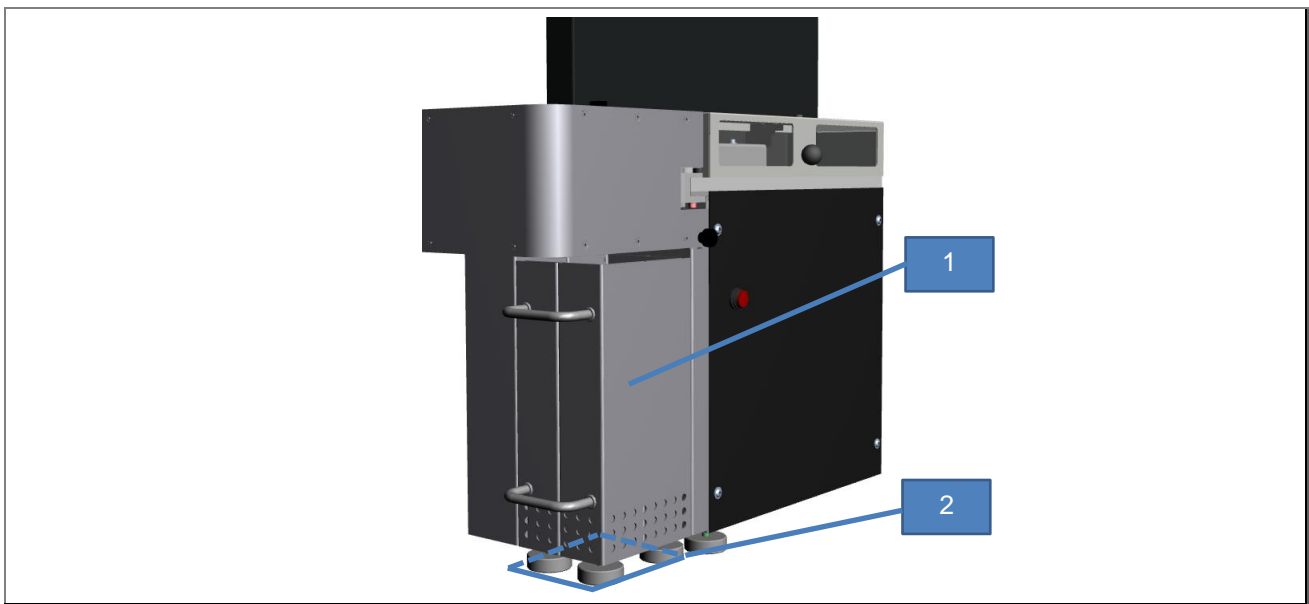

Fig. 7: Crucible disposal
The crucibles are automatically collected in the crucible bin (1). Before each analysis process, make sure there is still enough space in the crucible bin to accommodate the analysed crucibles. If necessary, empty the crucible bin before starting an analysis process. An analysis can only be performed if the crucible bin has been put in its designated space (2) (see Fig. 7: Crucible disposal).